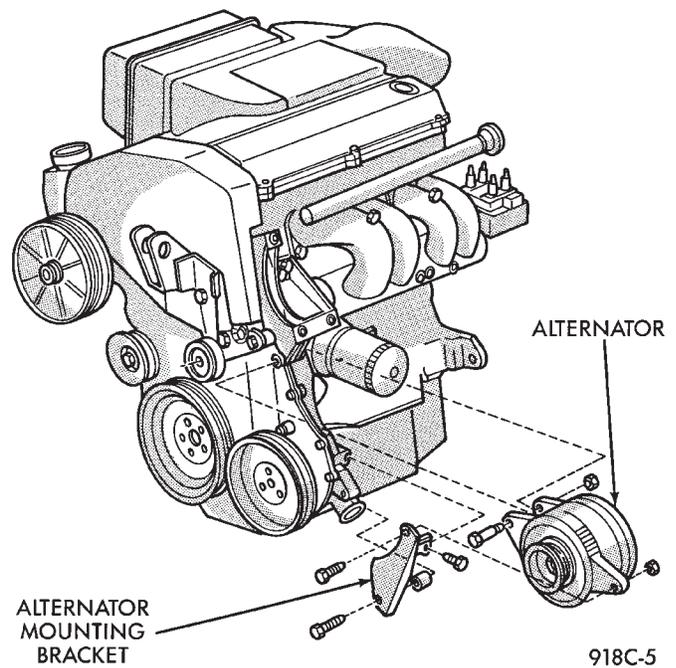

Fig. 6 Alternator Mounting—2.2 L Turbo Engine With 16 Valve Cylinder Head
- (5) Remove the alternator mounting bracket bolts and separate alternator from mounting bracket (Fig. 6).